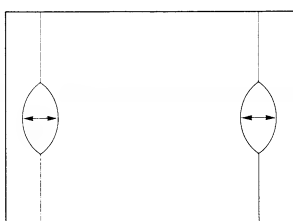

fig. 9
- Adjust the East/West 2 to obtain condition as in fig. 9.